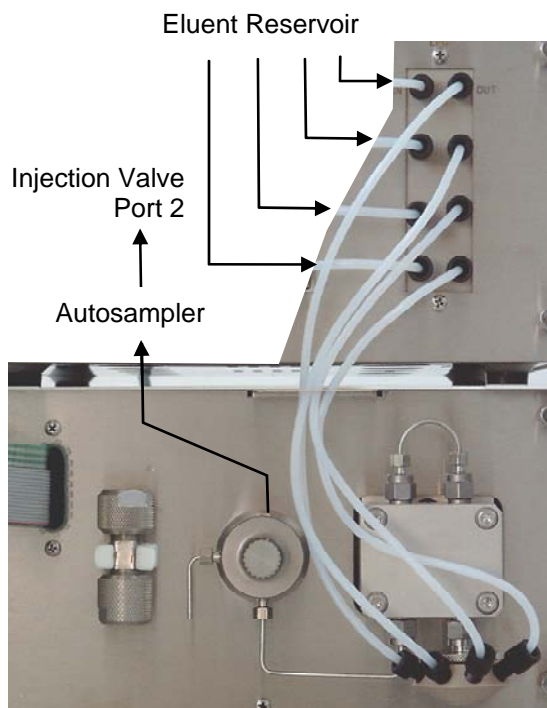

Fig. 9
Connect the LPG block "OUT" to the low-pressure mixing block on the pump head using the 0.27 to 0.30 m tubes (see Fig. 9). Close the inputs that are not used with blind fittings.
3. Prepare a capillary connection from the pump head outlet (see Fig. 9 on page 9) to the autosampler and from there to port 2 of the injection valve.